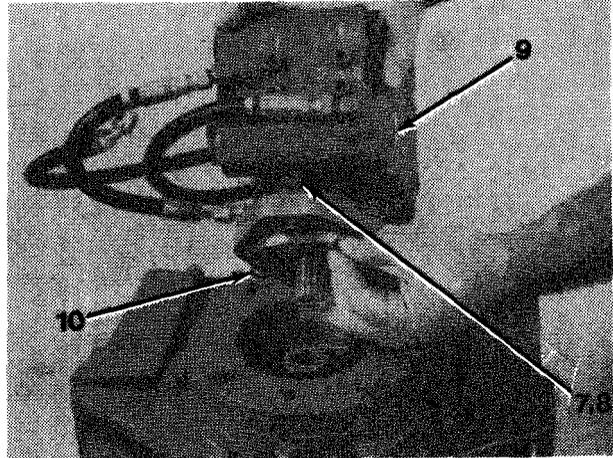
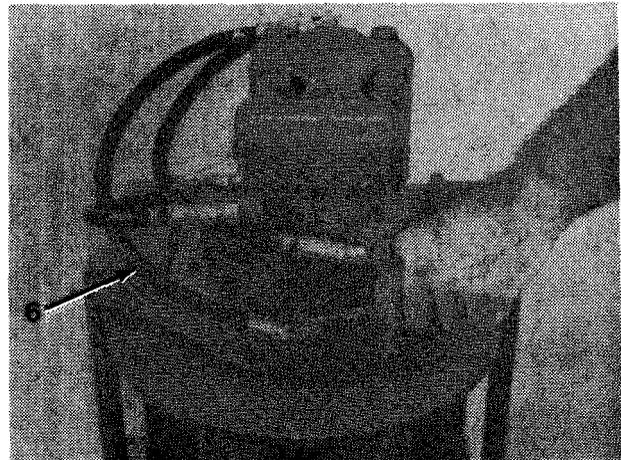

Figure 16-3
Figure 16-2
23. Install O-ring (10) on pilot of motor (9, Figure 16-3).
24. Lubricate O-ring (10) with lubricating oil NIIL-L-2105, grade 80W90.
25. Install motor (9) engaging motor shaft with brake clutch cam and lower motor into place.
26. Install two lockwashers (8) and capscrews (7).
27. Connect hose (6, Figure 16-2).